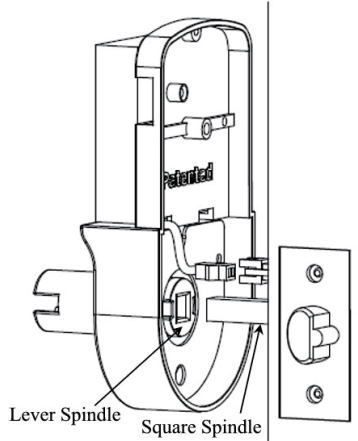

fig. 3
- 1.3 Take care to keep inside chassis vertically aligned during installation. Connect wire and arrange wire in empty space, take care to ensure wire is not pinched or crushed at any point during installation. The Square Spindle slide smoothly into square hole on Lever Spindle (see fig. 3).